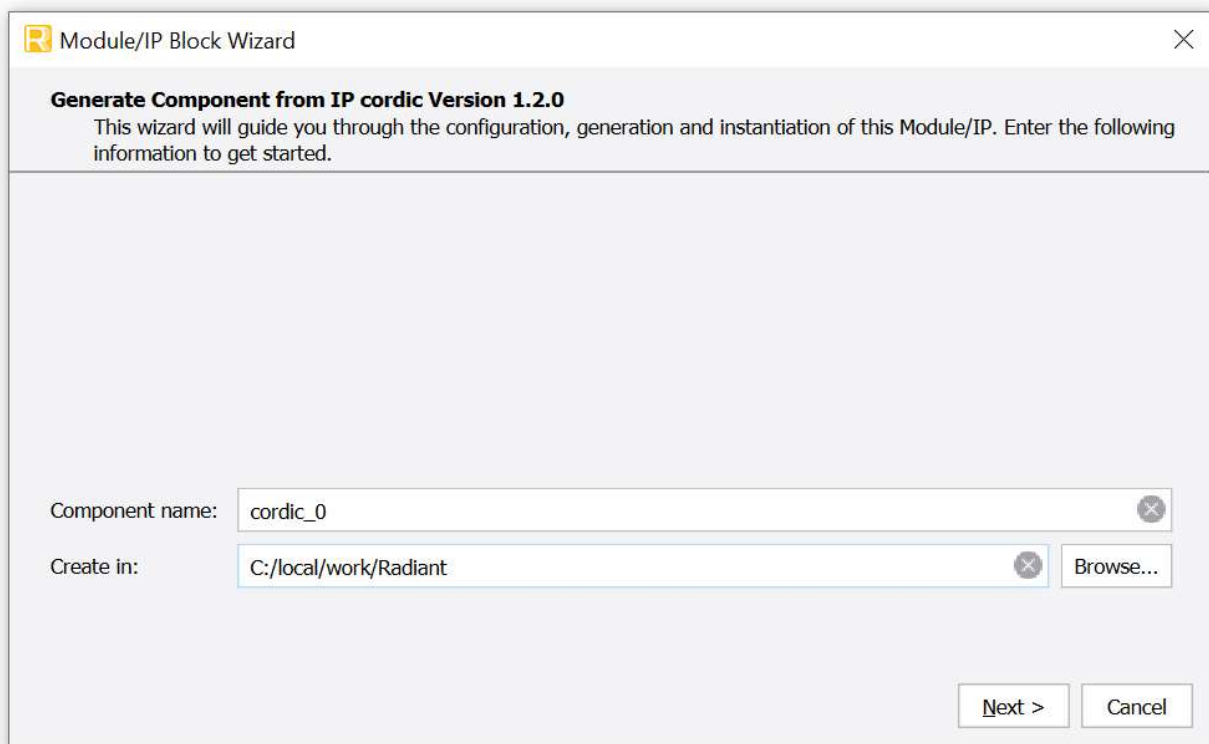

Figure 3.1. Module/IP Block Wizard
2. In the **IP Catalog** tab, double-click on **CORDIC** under **IP, DSP** category. The **Module/IP Block Wizard** opens as shown in Figure 3.1. Enter values in the **Component name** and the **Create in** fields and click **Next**.
5. Click the **Finish** button. All the generated files are placed under the directory paths in the **Create in** and the **Component name** fields shown in Figure 3.1.